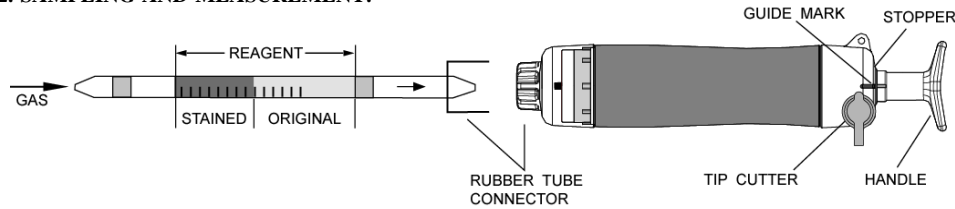

Fig.1
- ② Insert the detector tube into the aspirating pump securely as shown in Fig.1. (Arrow mark shall point to the pump.)
- ③ Align the guide marks on the shaft and stopper of the aspirating pump.
- ④ Pull the pump handle at full stroke locked position and wait for 3 minutes or until the completion of sampling is confirmed with the flow indicator of the pump (See descriptions about the flow indicator in the instruction manual of the pump).
- ⑤ Turn the pump handle right or left by 1/4 (90°), push it toward to the pump without removing the detector tube from the pump inlet, turn it right or left by 1/4 (90°) and repeat the step ④ twice.
- ⑥ On completion of sampling, read the scale at the maximum point of the stained layer.